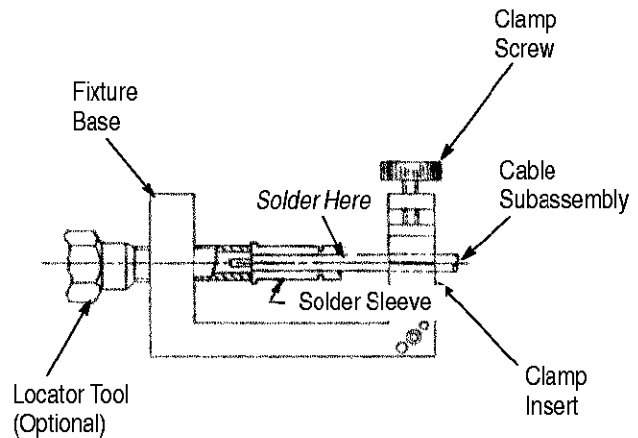

Figure 4
2. Place the loose assembly in the fixture base as shown in Figure 4. Slide the clamp nut back out of the way.
4. Hold the inner sleeve firmly against the locator and solder (with 60/40 type solder) as shown in Figure 4.